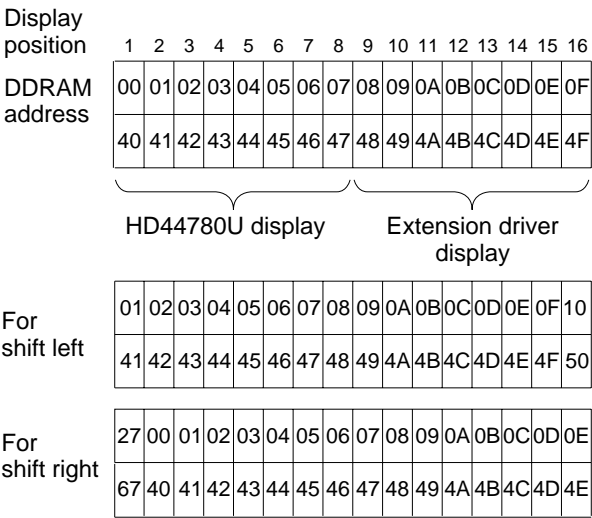

Figure 6 2-Line by 16-Character Display Example
- Case 2: For a 16-character × 2-line display, the HD44780 can be extended using one 40-output extension driver. See Figure 6.
When display shift operation is performed, the DDRAM address shifts. See Figure 6.